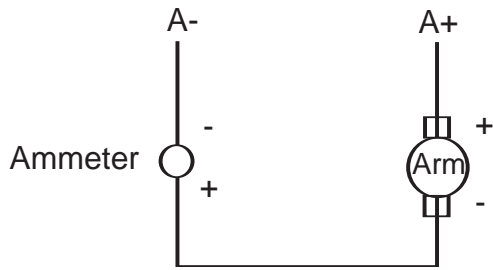

Figure 4
5. Set IR comp (IR) trim potentiometer full counterclockwise.
6. Set current limit (CL) trim potentiometer full clockwise.
7. Connect DC ammeter (0-25 amps) in series with an armature lead on the motor (see Figure 4).